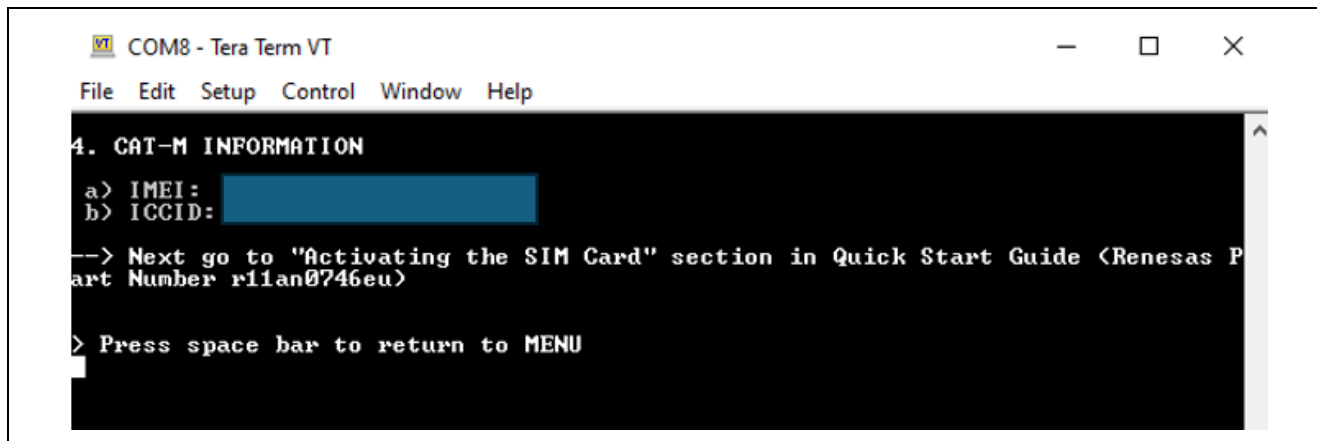

Figure 8. CAT-M Information
7. Select **Activate SIMS** to activate your individual SIM by **ICCID** and **PUK** found on the SIM Card packaging. Note: The **ICCID** value can also be obtained from section 2.2 Setting the SIM and Modem Information for Activation. See the **ICCID** value in Figure 8. CAT-M Information. Fill in other fields as needed.